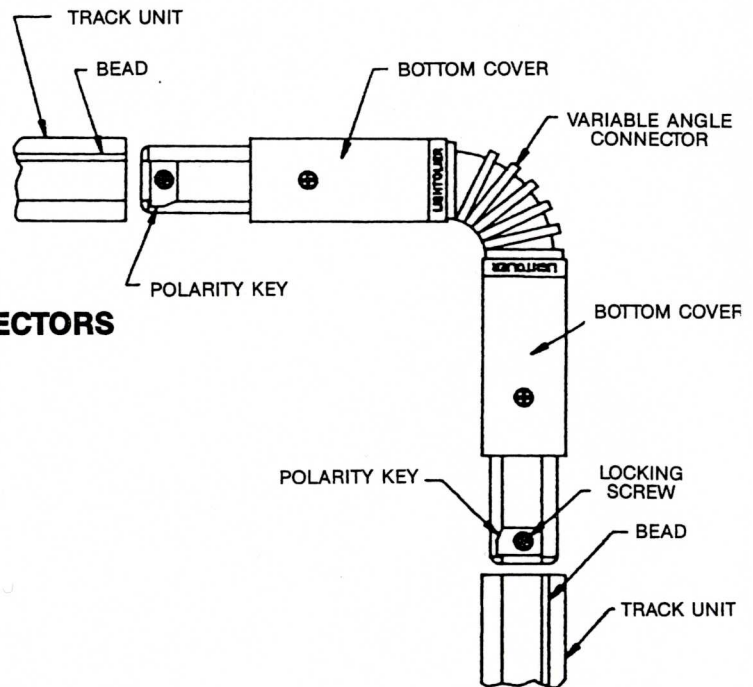

FIG. 2
1. To maintain polarity in pre-wired VARIABLE ANGLE CONNECTOR, orient TRACK UNITS so that the BEAD is opposite the POLARITY KEY (Fig. 2).